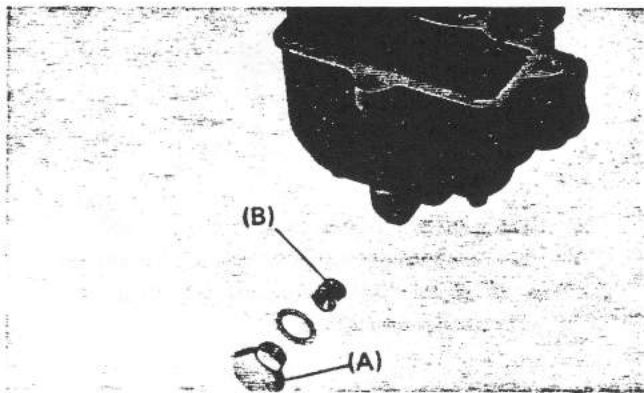

Fig. 185
Remove the plug (A) from the body, and remove the main jet (B) as shown in Fig. 185.